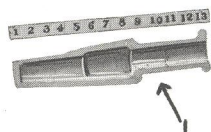
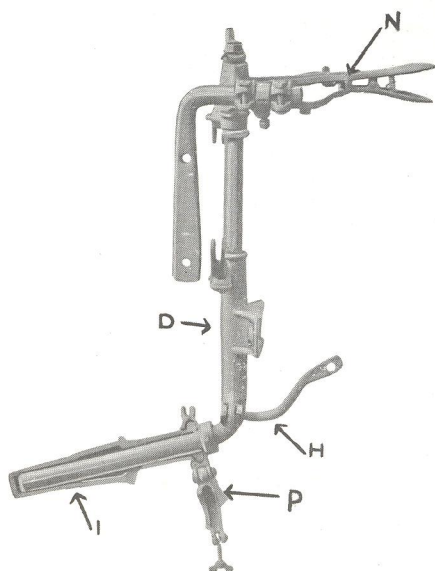

Fig. 7.
Fig. 9.
famous Emerson 2,000-mile magazine axles. These axles (Fig. 7) are 5 to 7 inches longer than other axles; they are arranged to absolutely prevent the entrance of dust, (P, Fig. 9) and they retain all the oil. They hold the wheels firm and true, prevent the wobbling which so greatly increases the draft, and they add many years to the life of the machine. Then, too, the daily drudgery of greasing is done away with; one greasing of the axle amply sufficing for full fifty acres of plowing.
**The wheels**, made in our own factory, have staggered spokes, 2-inch tires and are held in place on the axles with collar (P, Fig. 9) and set screws located on the inside of the hubs, dispensing entirely with the old fashioned inferior collar and cotter pin so frequently found on other machines. As previously explained, the wheels are several inches larger than others, a feature that insures lightness of draft and durability.
**The front furrow axle** has a greater range up and down than any other plow, being a little over seven inches, as against five in other machines; as this axle guides the plow besides bearing its share of the draft weight, it is provided with extra long bearings (D, Fig. 9) and is further strengthened by a heavy cross brace (H, Fig. 9) connected to the solid one piece frame.